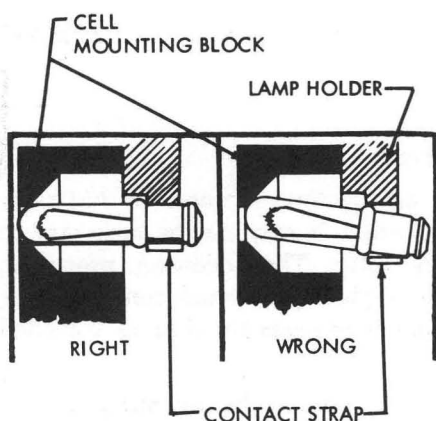

Figure 3-45. Solar Cell Lamp Position
7. Manually trip clutch; bring power up and hand crank read feed to a digit CB time (disk slot opposite solar cell). Crank machine slowly to avoid passing index points where meter deflection occurs. A minimum of 150 μ a should be observed. Reposition and/or replace lamp or solar cell assemblies to obtain required output. See Figure 3-45. Return to Step 2 if lamp has been repositioned or replaced.
shifted. This will permit the lamp base to seat firmly in the holder with the lens end fully seated against hole in solar cell mounting block. Refer to Figure 3-45.